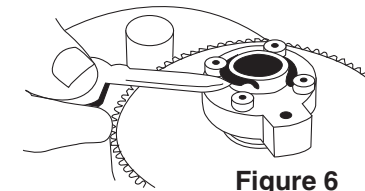

Figure 6
4. If the clutch has been slipping and requires adjustment the following procedures should be used. The clutch is adjustable in ten degree increments. With a screwdriver and pliers, remove the end of the clutch spring from the hole in the winch base. The spring tension is quite high so be careful to maintain a firm grip on the spring. The O-ring should be rotated so that the cut out portions align with the lugs on the spring keeper. (See FIG. 6)